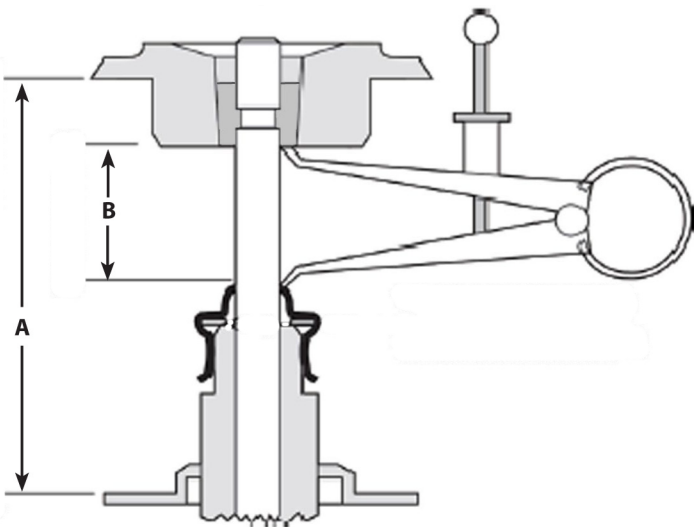

Fig. 1
- d. While holding the valve firmly against the seat in the closed position, measure the installed spring height (distance between lower valve spring seating surface and bottom of top collar. **See Figure 1, below, left.** Record this measurement in the table below.
- e. Measure distance between top collar keepers and top of the valve guide. **See Figure 1, Dimension B.** Distance must be at least .060" greater than the valve lift of the cam to be used.